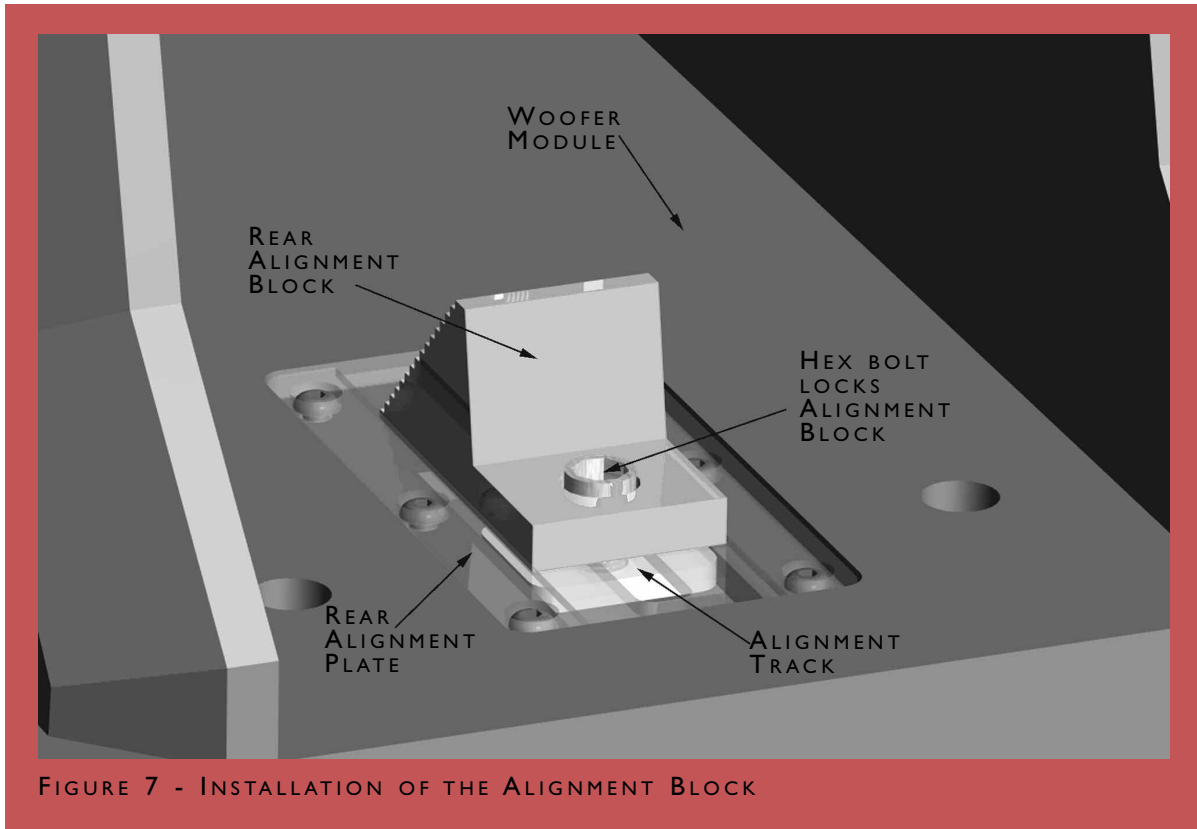

FIGURE 7 - INSTALLATION OF THE ALIGNMENT BLOCK
- Place the alignment block into the channel of the alignment plate (See Figure 7).